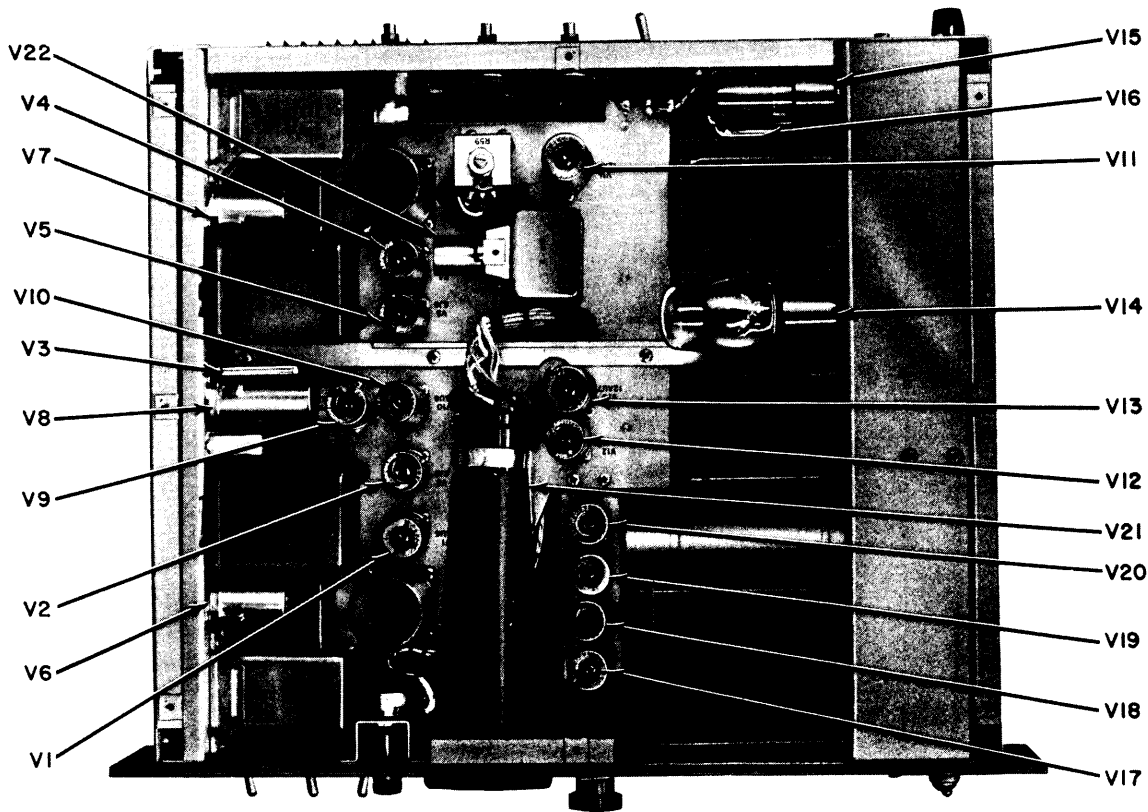

Figure 5-2. Model CFA, Tube Locations
- d. Tube location data (figure 5-2)